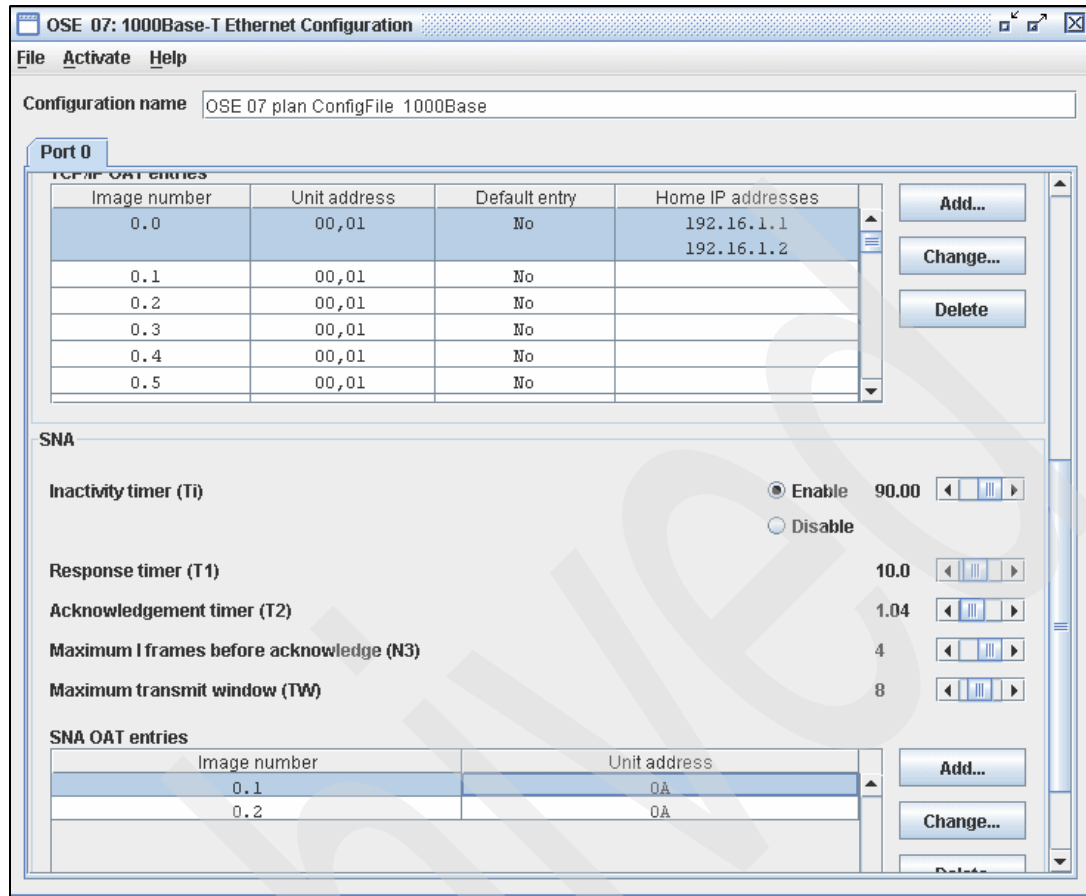

Figure 4-25 OSA/SF Workstation Interface - Change Configuration
5. From the list, select the saved configuration name and click **Load**. Configuration information previously saved is now displayed on the OSA configuration panel. Any changes that may be needed can be done for this configuration with OSA/SF as shown in Figure 4-25.